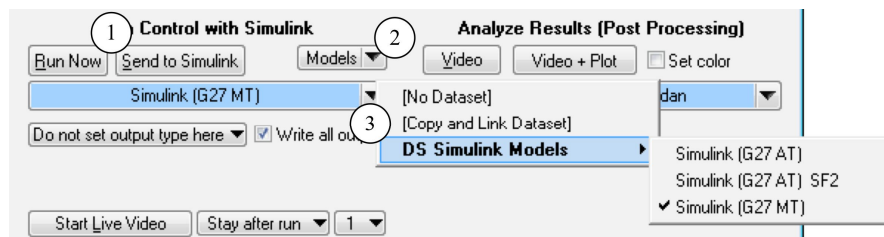

Figure 5. Different model datasets specify links to different Simulink models.
Depending on the type of linked library, the **Run Control** screen will show either a single **Run Math Model** button (1) or two buttons to access Simulink (shown later in Figure 5).
The **Run Control** examples that use Simulink have a link to a dataset from the **Models: Simulink** library. Each of these **Models: Simulink** datasets link to a Simulink model that is intended for use with the Logitech G27 (Figure 5).